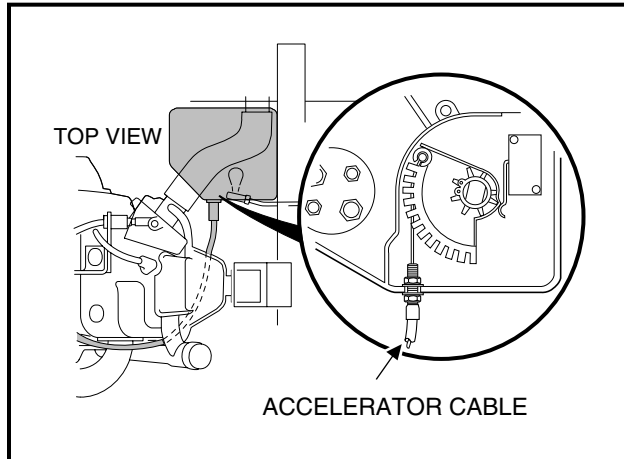

Figure 16-54 Connect Cable to Cam
28. Connect accelerator cable to actuator cam in the electrical box. Position the accelerator cable in mounting slot in the wall of the electrical box and tighten mounting nuts to 18 in-lb (2.0 N·m) (**Figure 16-54, Page 16-21**). Install electrical box cover and tighten mounting screw to 18 in-lb (2.0 N·m).